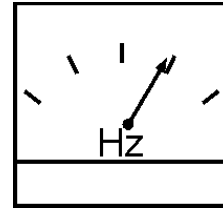

Figure 44. Frequency Meter
6. The generator's frequency meter (Figure 44) should be displaying the 60 cycle output frequency in **HERTZ**.